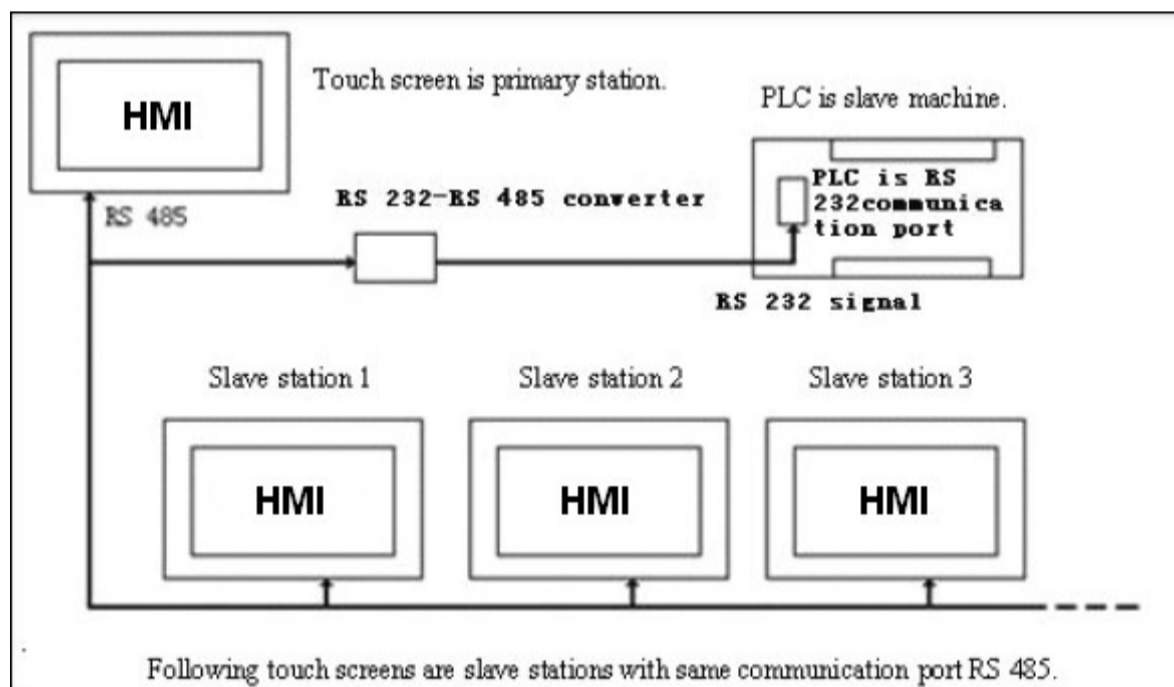

Figure 8-5 Sketch map of "One machine with multiple machines" when PLC (RS232) is Slave station
1.The communication port of the PLC connected is RS232; connection methods and system settings are as shown in Figure 8-5, 8-6 and 8-7: